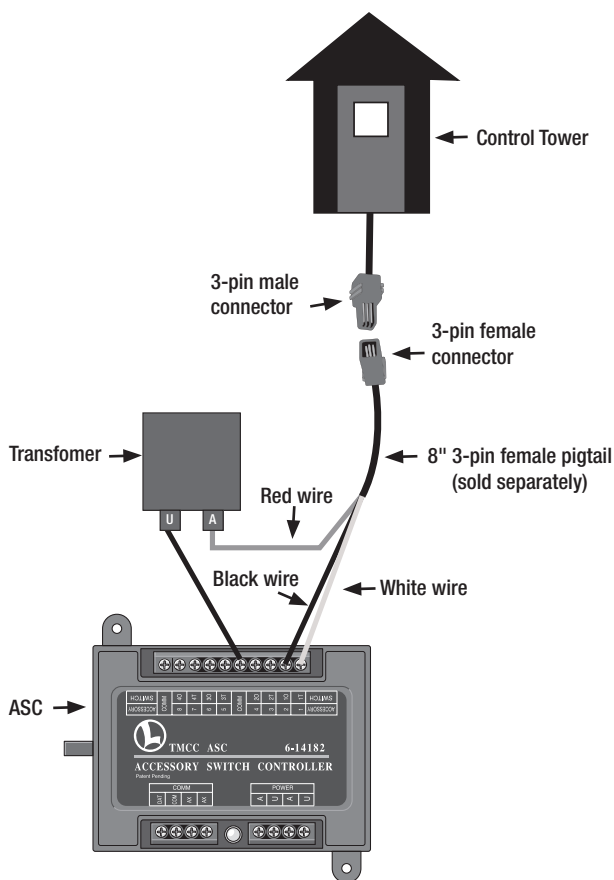

Figure 9. Wiring an ASC.
**F**our wires are needed to connect your accessory to the ASC and a separate accessory transformer. Refer to Figure 9.